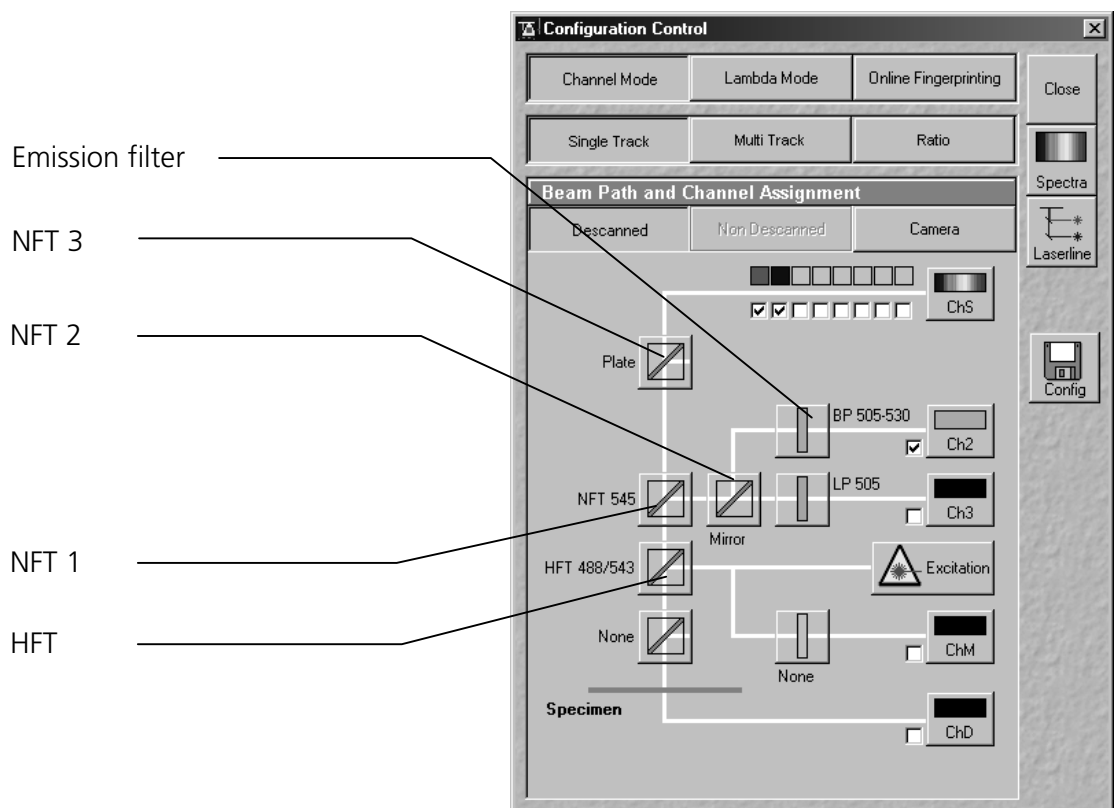

Fig. 5-41 Configuration Control window
The assignment of the numbered emission filters (1-4), NFT secondary dichroic beam splitters (1-3) and HFT main dichroic beam splitters in the **Beam Path and Channel Assignment** panel is shown in the **Configuration Control** window (Fig. 5-41). The numbers of the emission filters correspond to those of the channels lying behind (PMT photomultipliers).
(2) Beam path - HFT main dichroic beam splitters and NFT secondary dichroic beam splitters
- On the **Beam Path and Channel Assignment** panel, click on the HFT main dichroic beam splitters  (see Fig. 5-41).